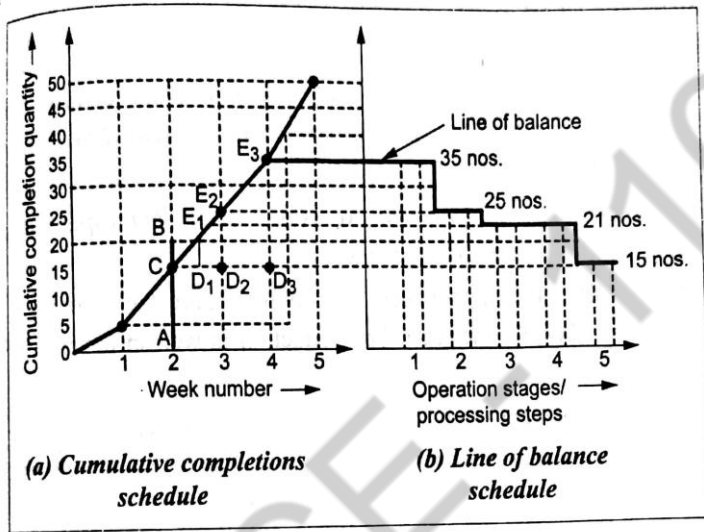

Fig. 4.14.
The LOB chart can be constructed graphically for the given problem as shown in Fig.4.14(b).
Step 1. First draw the cumulative completion schedule graph, as shown in Fig.4.14(a).
Step 3. Draw the line of balance schedule on the right hand side of the cumulative completion schedule graph [Fig.4.14(b)]. Show by means of vertical bars, the 5 operation stages on the LOB schedule and indicate the quantities of the item that should have been passed through the operation stages (i.e., processing steps 1 to 5), by means of height of the vertical bars for each operation stage.